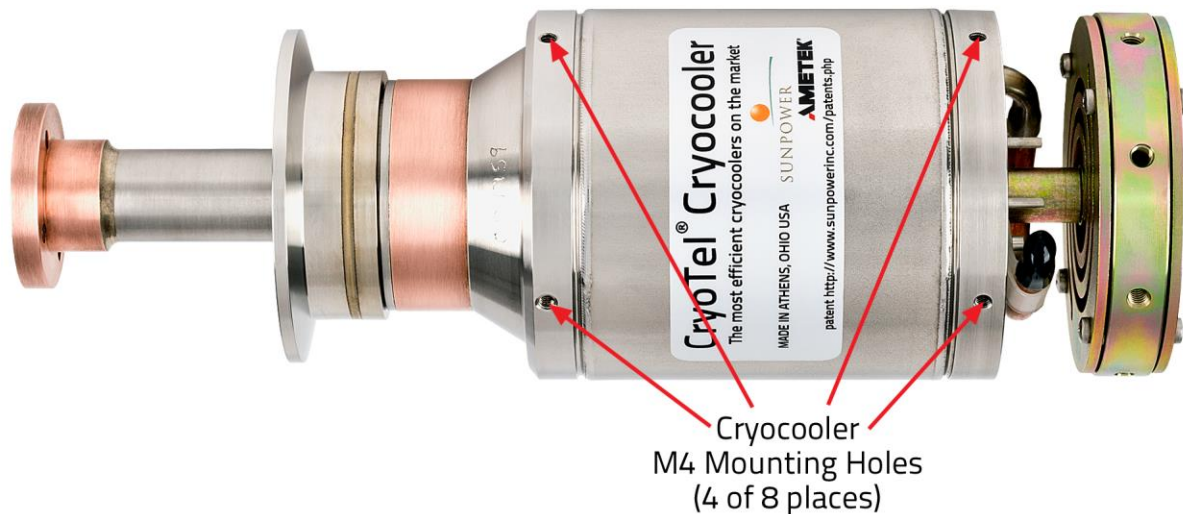

Figure 3-8. Cryocooler Mounting Holes, Same as CryoTel CT [Shown]
7. (Optional) Attach the GT to a customer-supplied mechanical supporting structure via the M4 threaded mounting holes around the circumference of both ends of the GT's pressure vessel (figure 3-8).